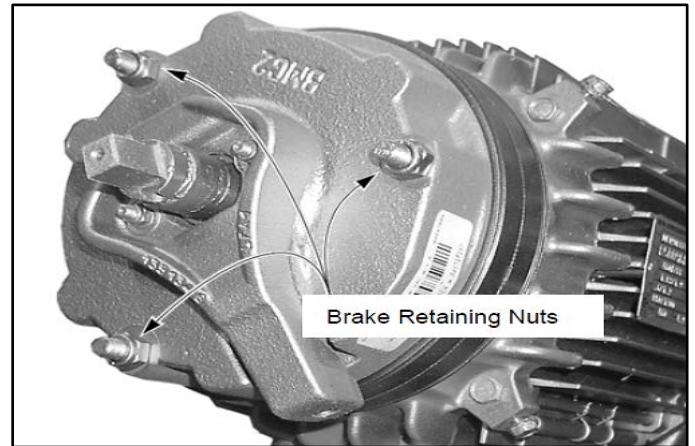
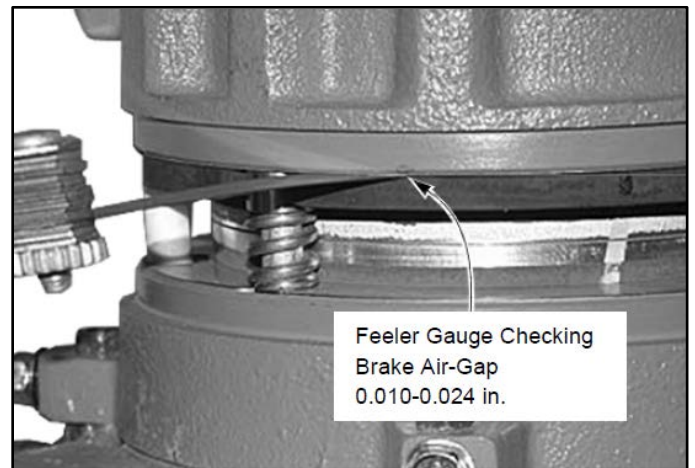

Figure 29
Figure 30
4. Using a feeler gauge and a nut driver, adjust the retaining nuts until you achieve the proper air-gap of 0.010–0.024 in. (See Figure 29 and Figure 30.)